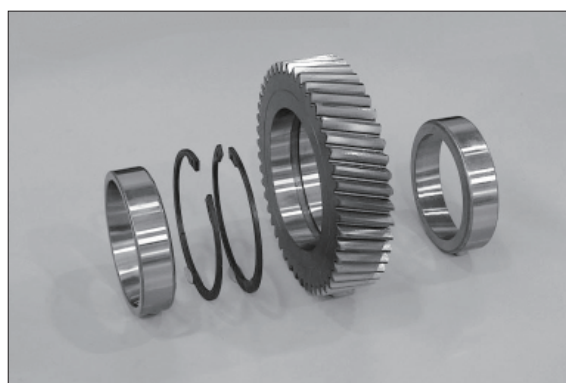

Figure 121
(12) Preassemble the intermediate gear (7) according to figure 121.